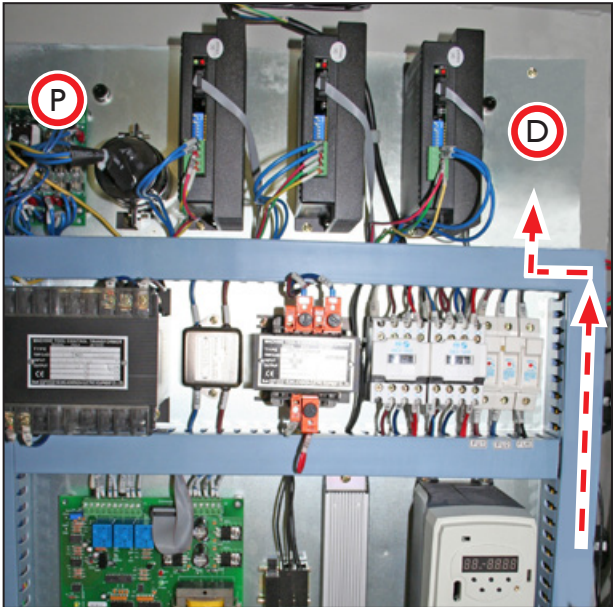
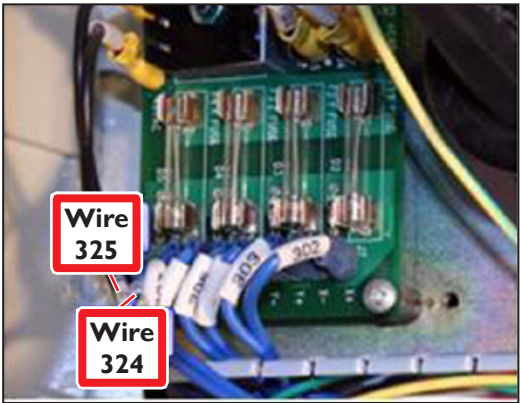
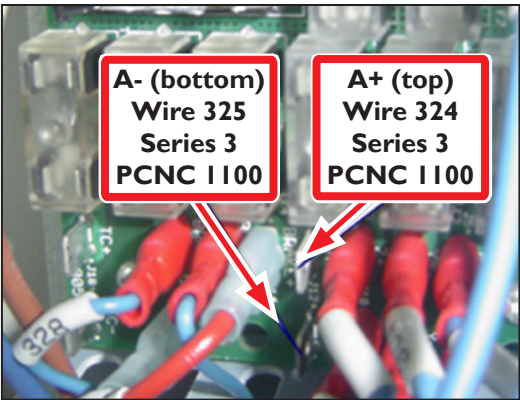
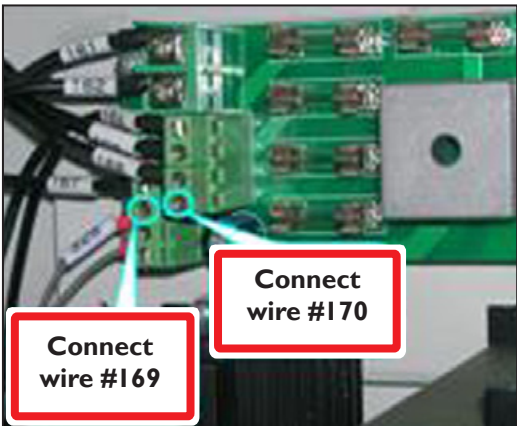

Figure 3
Figure 9
Figure 10
Figure 11
- 2. Identify location *D* in electrical cabinet as shown in **Figure 3** to install 4th axis drive.
2. Route wires 320-323 from Interface Connector through wire troughs and to location *D* as shown in **Figure 3**.
1. Plug crimp connector end of wire 325 to connector marked –A on the DC Bus Board (at location P in **Figure 3**); plug crimp connector end of wire 324 to the connector marked +A (see **Figure 9** and **Figure 10**). Refer to *PCNC 1100 Wiring Overview* section later in this document for wire labeling details.
2. Route loose end of power wire to drive (location D in **Figure 3**).
1. Plug crimp connector end of wire 170 to connector marked –A on the DC Bus Board (at location P in **Figure 3**); plug crimp connector end of wire 169 to the connector marked +A (see **Figure 11** and **Figure 12**). Refer to *PCNC 770 Wiring Overview* section later in this document for wire labeling details.
2. Route loose end of power wire to drive (at location D in **Figure 3**).